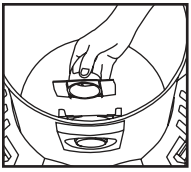

FIGURE 24
33. Remove the inlet deflector from the deflector guide. **NOTE:** Hose must be removed before the inlet deflector can be taken out. **FIGURE 24.**